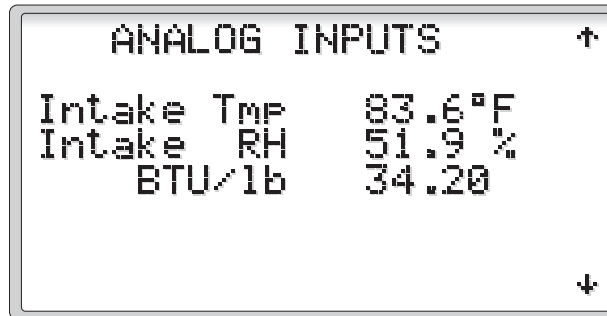

Figure 7
2.2.1.2.2 Analog Inputs (Figures 7, 8 and 9)
These screens are provided for troubleshooting the control system. The Analog Inputs screen in Figure 7 shows the current readings of the zone conditions including the Intake Air Temperature, Intake Air Humidity and the calculated enthalpy of the zone. To view the next screen, press the **DOWN** key.